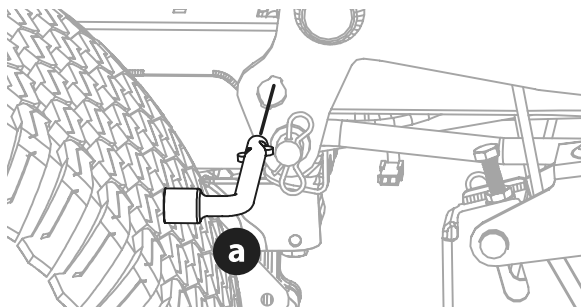

Figure 43
- On tractors equipped with the deck lift knob or pin, use the deck lift pedal and deck lift knob or pin to place the deck in the lowest position and use the multi-tool (a) (if equipped) to lock the deck lift components in place as shown in Figure 43. On tractors with a deck lift handle, lower the deck into the lowest position.